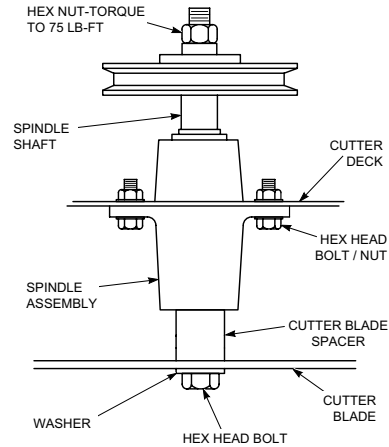

Figure 7-12. Cutter Blade Replacement
5. Remove the cutter blade attaching bolt. Remove the cutter blade, bolt, lock washer, and flat washer from the spindle shaft. See Figure 7-12.
8. Secure the cutter blades from rotating and torque to 75 ft-lbs. See Figure 7-12.